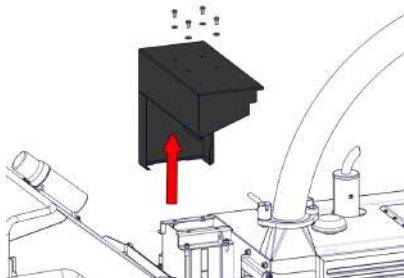

Figure 34 - Removing the Roller Box Guard
2. Unbolt and remove the roller box guard (Figure 34).